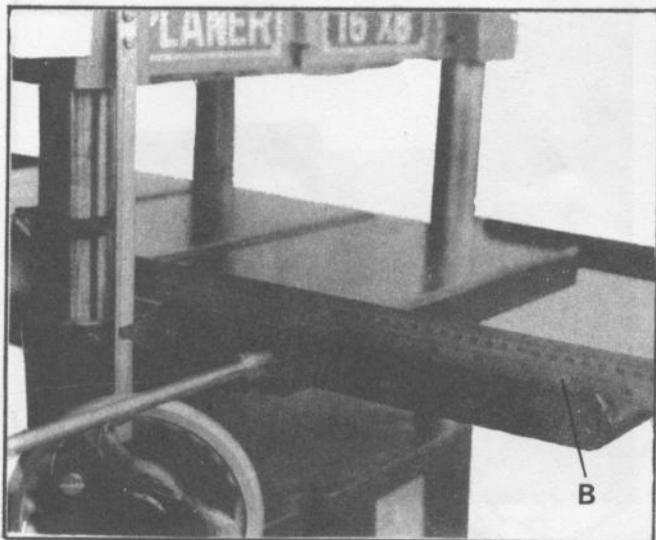

Fig. 8
2. Lay a straight edge (B) Fig. 8, across both rolls and turn screws (E) to raise or lower table rolls (A). Table rolls must also be adjusted on the opposite end of table in the same manner. The table rolls must always be set parallel to the table.